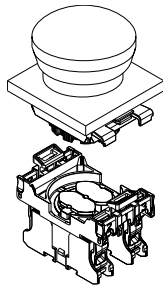

Fig. 6
5. Assembly of the pre-assembled contact carrier onto the mounting flange (see Fig. 6): engage the contact carrier on one side of the mounting flange. Then repeat this process on the opposite side.